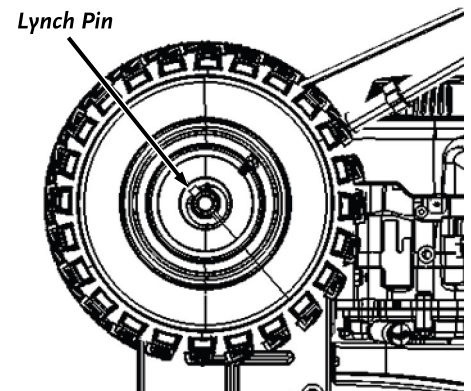

Figure 55
3. Remove the Lynch Pins from the Wheels and remove the Wheels. (**Figure 55**).